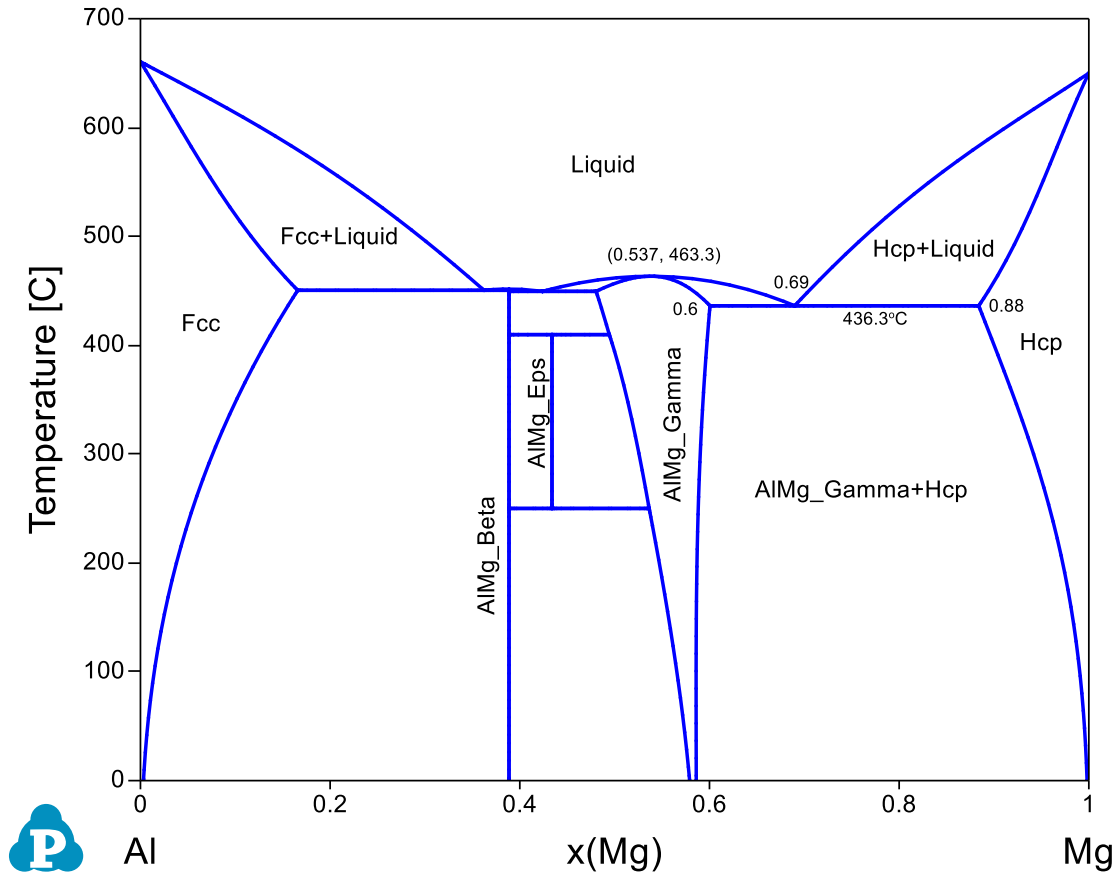

Figure 1.1.2: Calculated Al-Mg binary phase diagram
- Invariant reaction temperatures and phase compositions. For example the three phase equilibrium: Liquid->AIMg_Gamma+Hcp is at 436°C, the composition, x(Mg), of each phase at equilibrium is indicated in Figure 1.1.2. Details on the invariant reactions can be found in the “invariant” table as shown in Figure 1.1.3, and composition of each phase involved in the invariant reaction can be found in the “invariant_tieline” tables as shown in Figure 1.1.4.